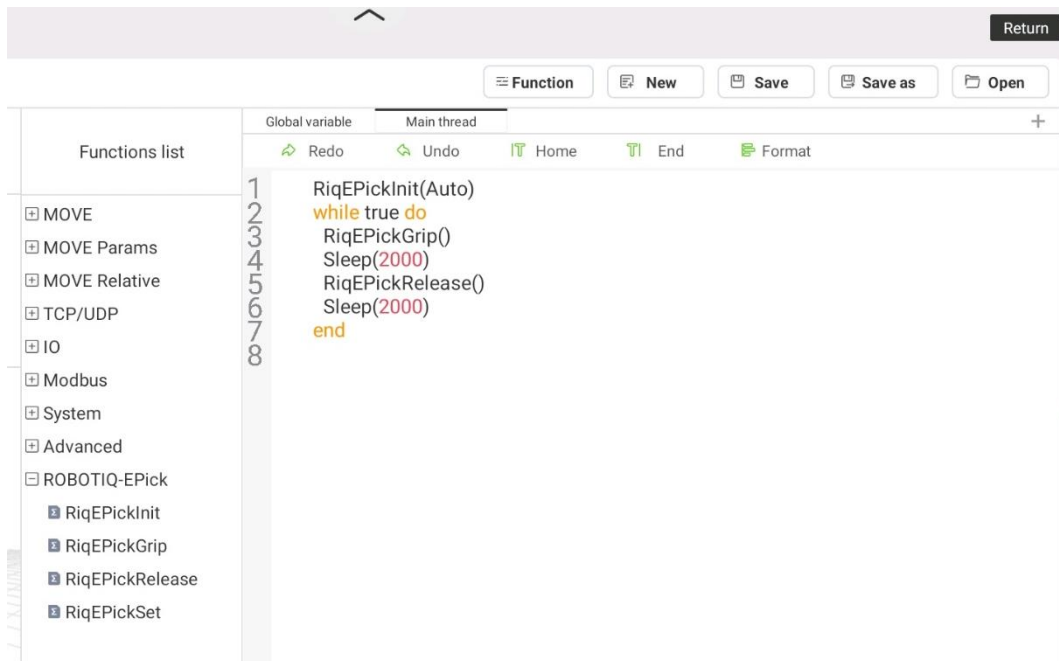

Figure 3.13 Write a program
Step 2 Write programs by using the APIs that ROBOTIQ-EPick plug-in supports, as shown in Figure 3.13.